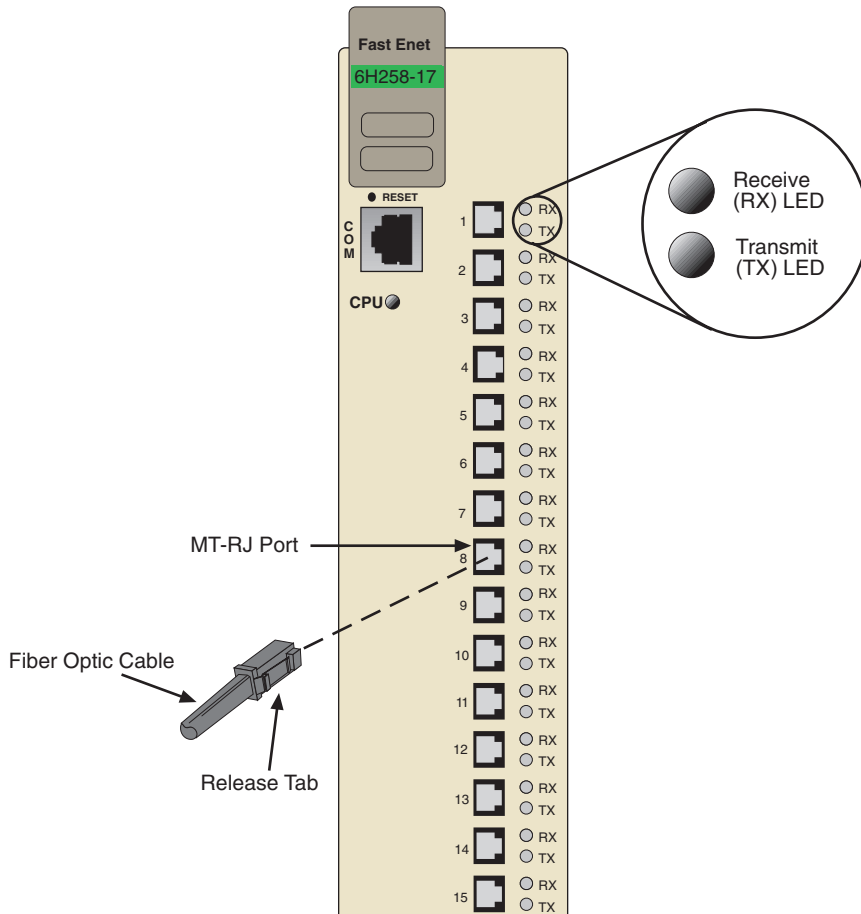

Figure 3-2 Connecting a Fiber Optic Segment to the SmartSwitch
2. Connect the fiber optic segment to the SmartSwitch by inserting the MT-RJ connector into the desired port until the release tab catches, as shown in Figure 3-2.